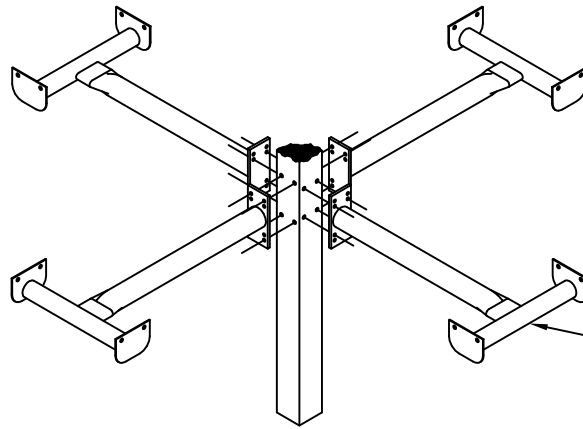
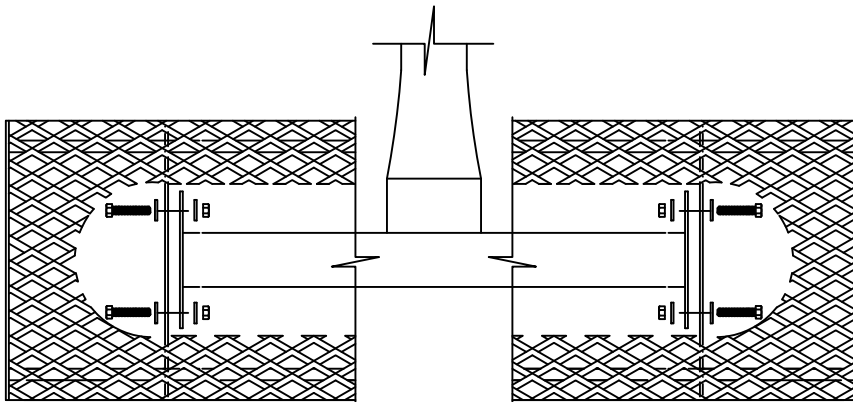

FIG. 7
FIG. 8
Attach each (C1) seat assembly arm to the inground post as shown in FIG. 7. Use four, per each seat assembly arm, (J) and (K) using two (O) and one (R) per (J).
Attach all three/four (B-) seats (see FIG. 7 NOTE) to the end of each seat assembly arm. Align the seat's mounting brackets to the outside of the seat assembly (C1), FIG. 8. Use four, per each seat, (H) and (N) using two (M) and one (Q) per (H).